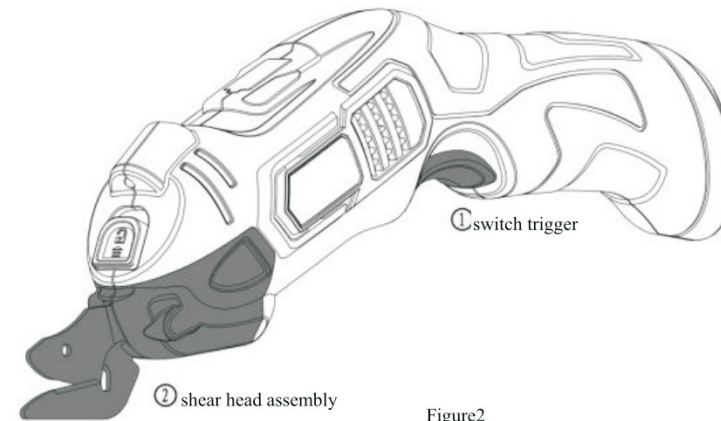
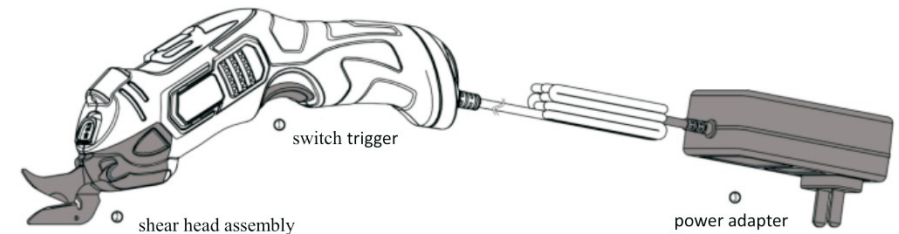

Figure 2
Figure 3
2. Start operation (figure 2, figure 3)
- a) Get the machine first to check whether the machine is complete, whether the shear head assembly 2 is fixed and reliable, after checking is completed, (Fig. 2) Cordless shear, (Fig. 3) Plugging electric shear plug the power adapter 3 into the outlet, press the switch trigger 1 to start the machine, and then align the shear to the place where the material is to be cut to push the shear, and cut straight lines or curves forward according to the lines drawn.